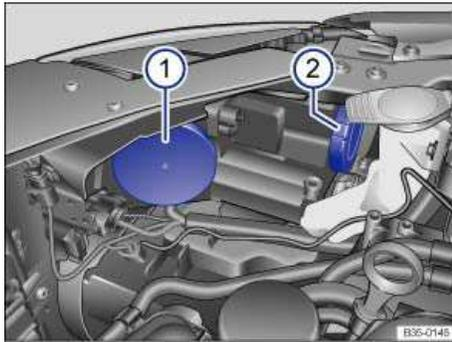
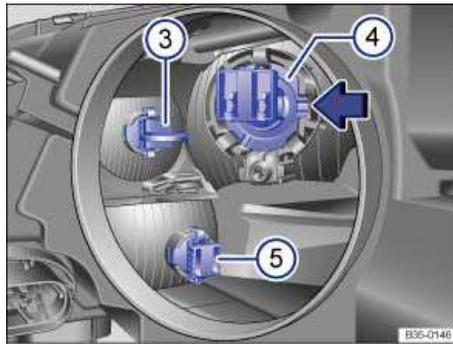

Fig. 200 In the engine compartment: Cover for cornering light, daytime running light, parking light and turn signal 1, HID headlights 2.
Fig. 201 Removing and installing the bulbs for the daytime running light and parking light 3, cornering light 4 or turn signal 5.
3. Pull the rubber cover on the rear side of the headlight to the side ⇒ fig. 200 \(1\).
4. Remove the bulb holder ⇒ fig. 201 \(3\) with the bulb and pull it toward the rear out of the headlight housing.
7. Insert the bulb holder with the new bulb in the original position in the headlight housing (3).
8. Install the rubber cover ⇒ fig. 200 (1).
3. Pull the rubber cover on the rear side of the headlight to the side (1).
4. Press in the direction of the arrow to remove the bulb holder ⇒ fig. 201 (4) with the bulb and pull it toward the rear out of the headlight housing.
7. Insert the bulb holder with the new bulb in the original position in the headlight housing (4) and press opposite to the direction of the arrow. The front of the bulb holder must fit correctly in the cutout on the headlight housing ⇒ fig. 201 (arrow).
9. Install the rubber cover ⇒ fig. 200 (1).
4. Press downward to remove the bulb holder ⇒ fig. 201 \(5\) with the bulb and pull it toward the rear out of the headlight housing.
8. Install the rubber cover ⇒ fig. 200 \(1\).